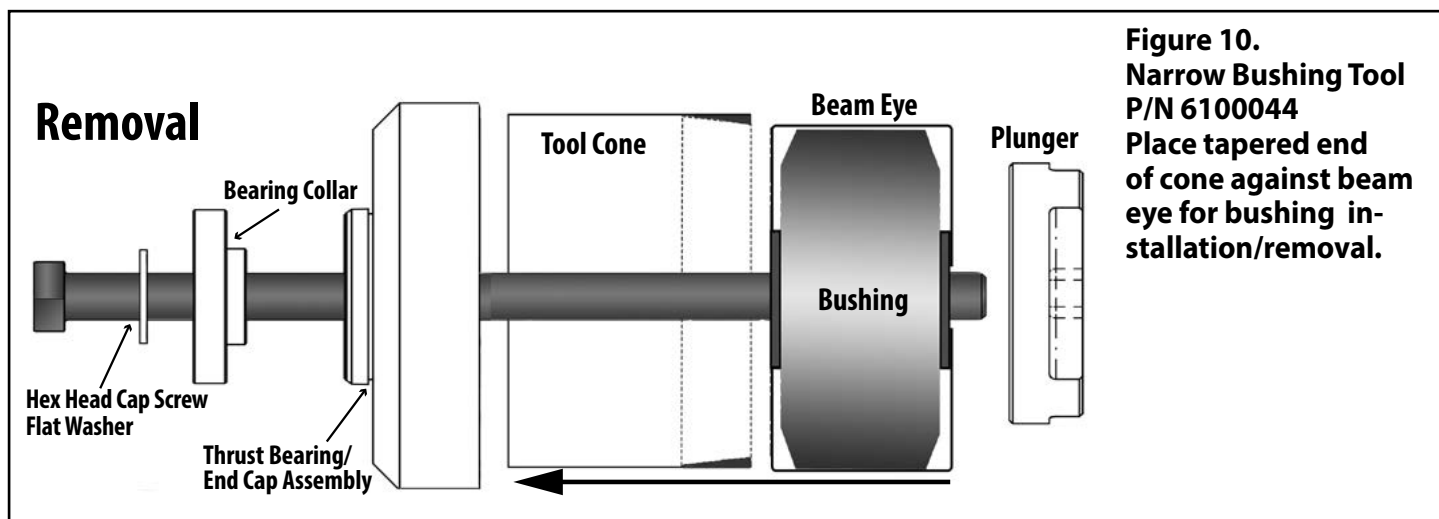

Figure 10.
Thread the flat washer, the bearing collar and the endcap onto the HHCS until the bearing collar and endcap rest against the head of the HHCS. Place tool cone onto endcap (Figure 10).
1. Push the hex-head cap screw through the bushing inner sleeve until the tool cone is against the beam eye. Thread the plunger onto the HHCS until the tool cone is held firmly against the beam (Figure 10).